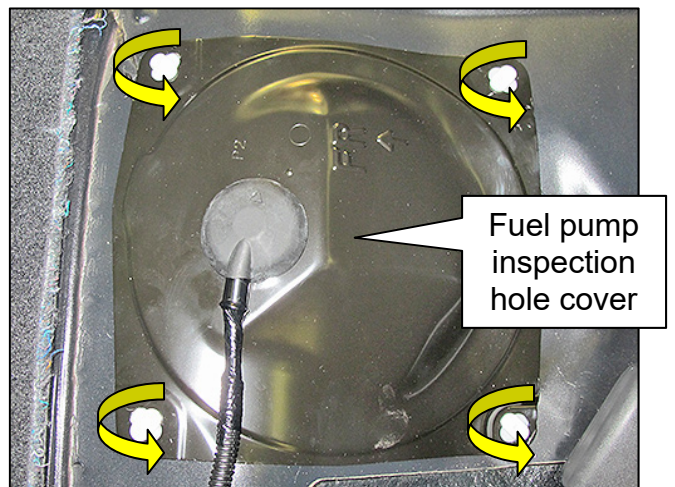

Figure 14
- Using a suitable tool, turn each of the four (4) clips 90° counter-clockwise (see Figure 14).